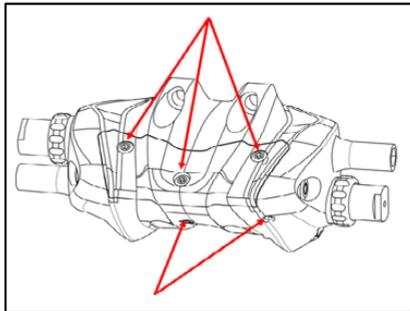

Fig. K-2 Do not remove the screws
- Please do not remove the screws from the hydraulic cap located the circled cylinder section, by removing the screw may cause unpredictable malfunctions. **(Fig. K-2)**